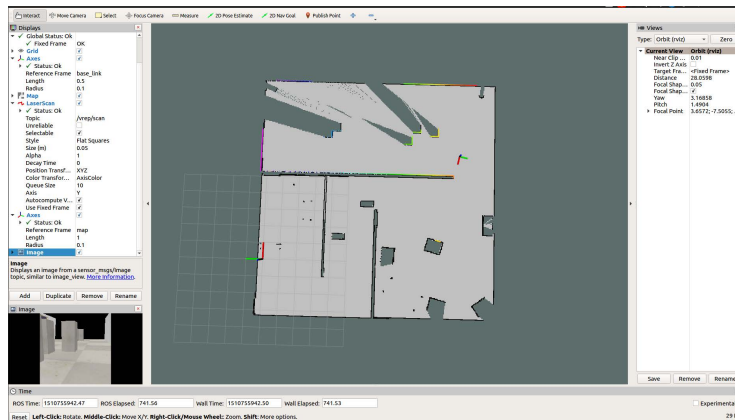

Figure 1: Grid map in Rviz
- 2 Build 2D grid map with laserscan data and show it via rviz such as Fig. 1 20%
- 3 at same time, the grid map should be shown in rviz. Fig.1.